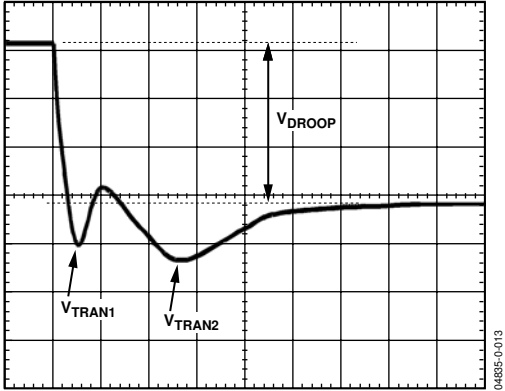

Figure 18. Transient Setting Waveform, Load Step
19. With dynamic load still set at maximum step size, expand scope time scale to see 2-5 $\mu\text{s}/\text{div}$. You see a waveform that may have two overshoots and one minor undershoot (see Figure 18). Here, V_{DROOP} is the final desired value.